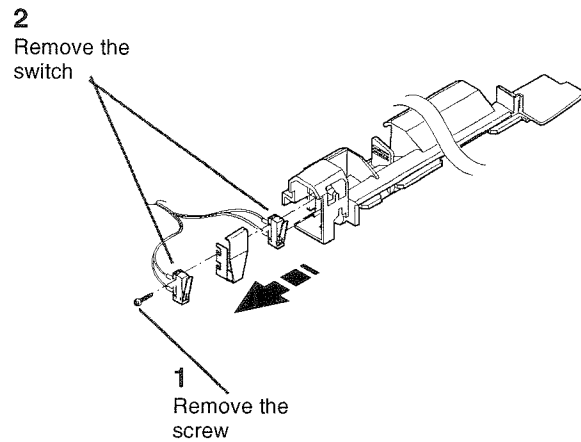

Figure 2 Removing the Side Door Interlock Switch
3. ( Figure 2): Remove the Side Door Interlock Switch.